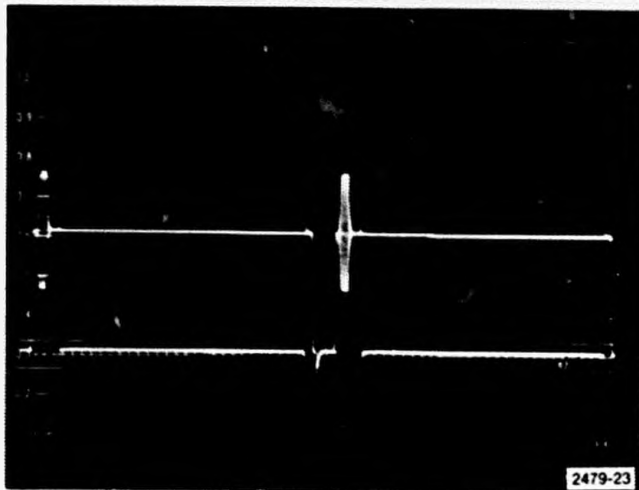

Fig. 2-3. Measuring luminance or bar amplitudes.
b. Check for a peak luminance level of 700 mV $\pm$ 7.0 mV with the Variable Amplitude Calibrator. See Fig 2-3.
d. Check bar amplitudes, using the Variable Amplitude Calibrator, according to Table 2-3 and Fig. 2-3.